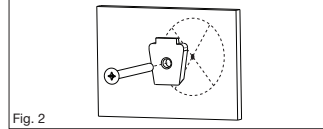

Fig. 2
8. Attach Assist Bar mounting bracket to the wall with 1/4-inch x 2-1/2 Hex head lag screw. DO NOT COMPLETELY TIGHTEN. (Fig. 2)